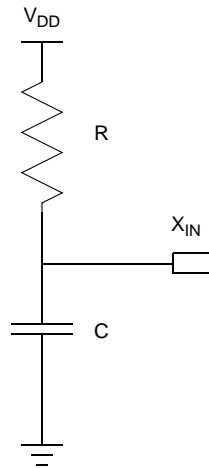

Figure 39. Connecting the On-Chip Oscillator to an External RC Network
The External RC oscillator mode is applicable to timing insensitive applications. Figure 39 displays a recommended configuration for connection with an external resistor-capacitor (RC) network.